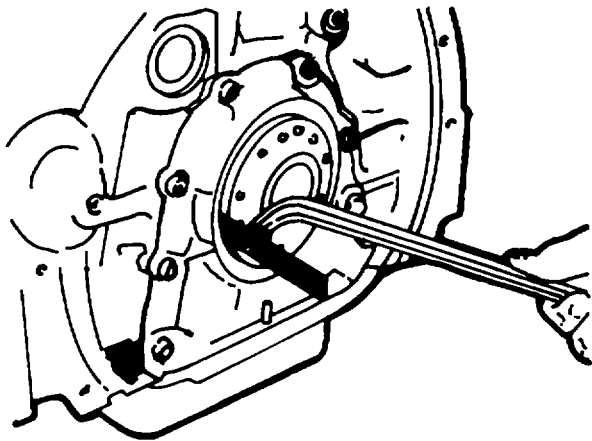
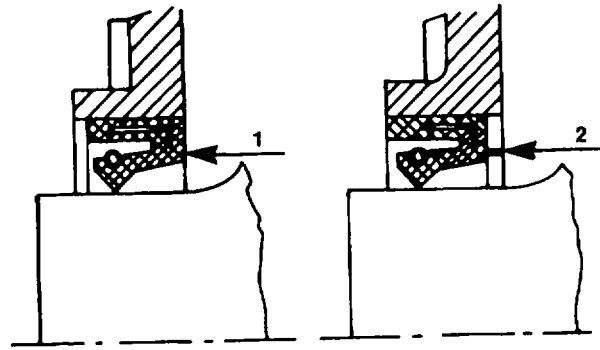

Figure 5-51. Removing Radial Sealing Ring with Puller 003-0733
Figure 5-55. Correct Installation of Radial Seal
1. Apply puller No. 003-0733 and draw off radial sealing ring (figure 5-51).
When moving the seal, observe correct depth of installation (pressed in). Depth 1 (figure 5-55), outside flush with front-end cover. Depth 2 (after shifting in front-end cover to be flush inside): maximum 0.039-inch (1.0 mm) (figure 5-51).